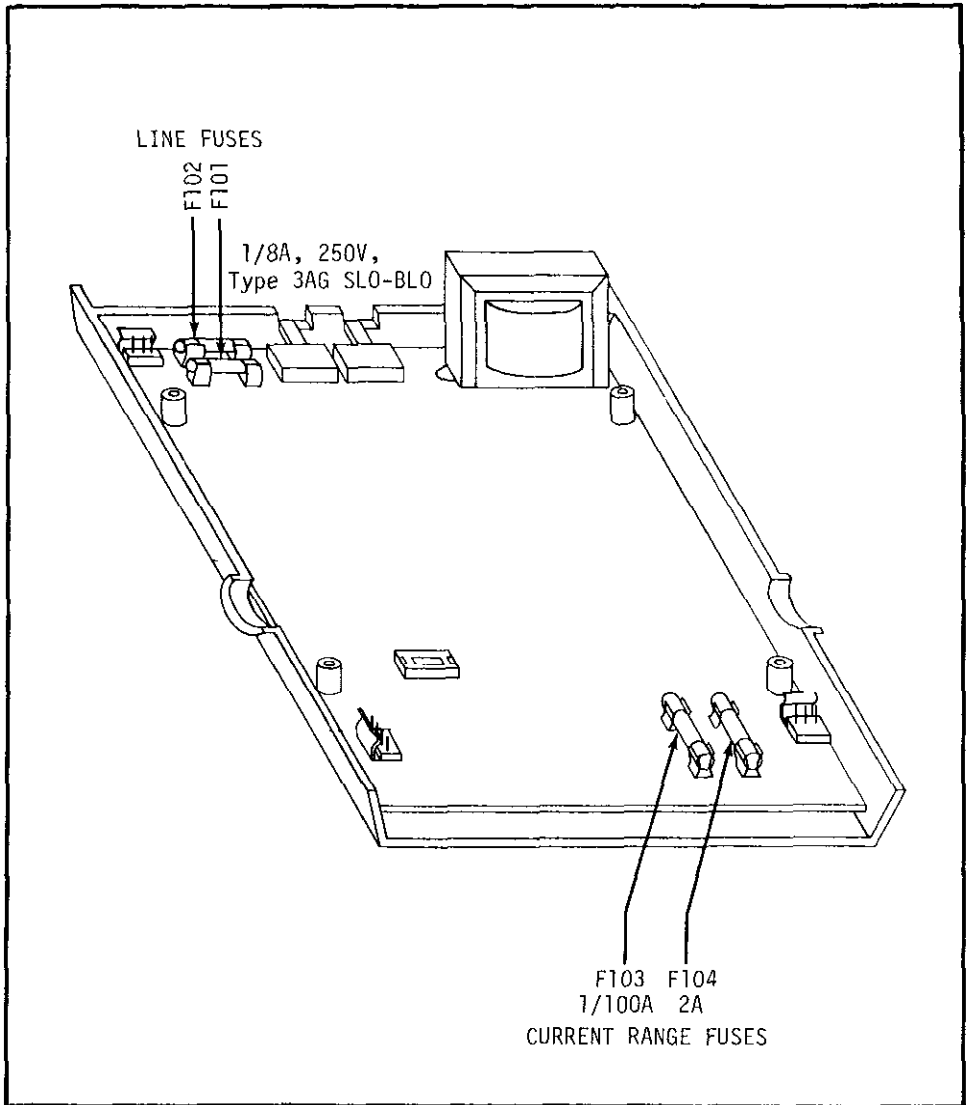

FIGURE 26. Location of Fuses.
a. How to Replace Line Fuses. The Model 168 uses two line fuses in the primary windings of transformer T101. Fuse F101 (1/8A, 3AG) is connected in series with winding 4-5-6 for all positions of LINE Switches. Fuse F102 (1/8A, 3AG) is connected in series with winding 1-2-3 only when the Model 168 is set to 117V. The line fuses are located on the main printed circuit board PC-346 as shown in Figure 26. To gain access to the printed circuit board, turn the instrument over so that the bottom cover faces up. Remove four slotted screws on the bottom cover. Turn over the instrument with top cover facing up, taking care to hold the top and bottom covers together. Remove the top cover to gain access to the printed circuit board. Replace fuses as necessary. Replace top cover. Turn over the instrument with bottom cover facing up and install the four slotted-head screws.
2) Fuses F101 and F201 are missing or open.	Check fuses F101 and F102. Replace with 3AG, 1/8A, 234V types. See Figure 26.